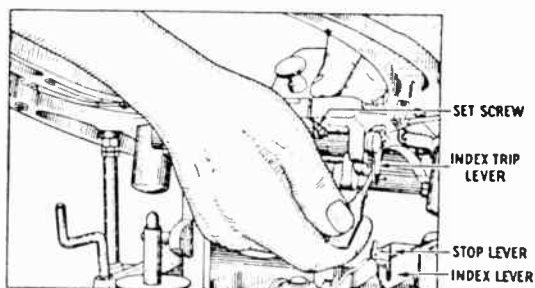

Fig. 15 - Adjusting Index Trip Lever
b. Tighten the set screw on the index lever trip cam, as shown in Fig. 15, so that it is against the flat of the index trip lever shaft. Loosen the lock nut in the index trip lever as shown in Fig. 15, and adjust the screw until the inside pin lowers on the stop lever and the outside pin lowers in the larger slot of the index lever when the lift ring comes down without a record.
- a. Improper adjustment of index trip lever, Fig. 15. See b, subject 16, above for proper adjustment.